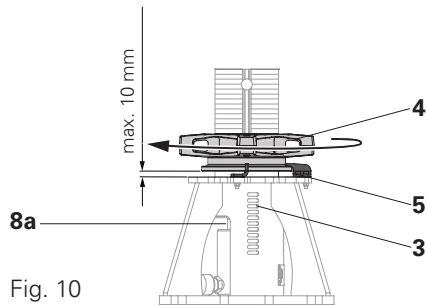

Fig. 10
- The bottom edge of the red pressure piece (3) is positioned in the middle of slotted hole 9. (Fig. 10)